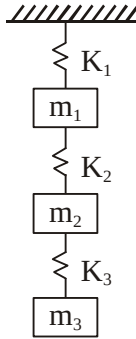

Figure 3.
- (b) Determine the natural frequencies and mode shapes of the system shown in the Figure 3. Assume $m_1 \neq m_2 = m_3 = m$ and $k_1 = k_2 = k_3 = k$. 10